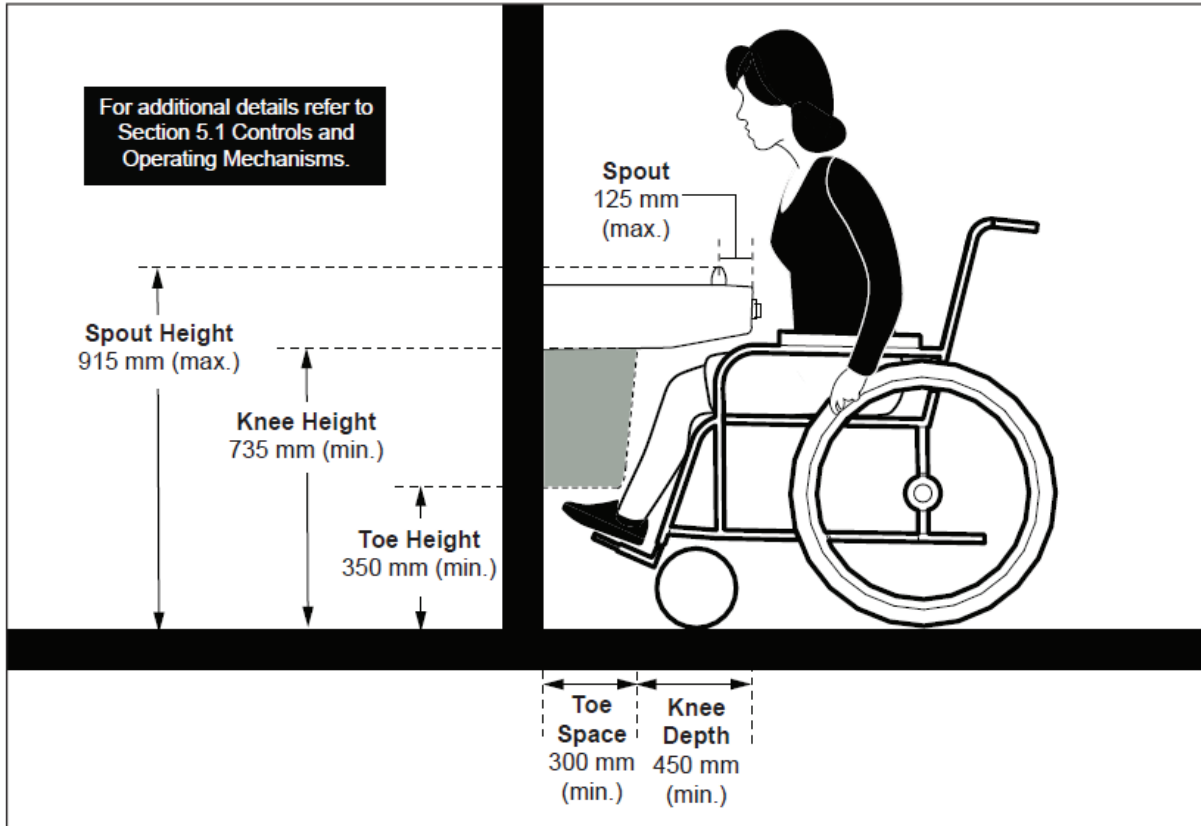

Figure 40: Drinking Fountain Design and Layout – Elevation View
- Back support: Extend 455 mm above the seat surface or affix to a wall for stability (see Figure 40)